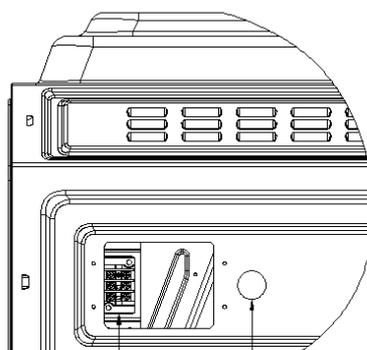
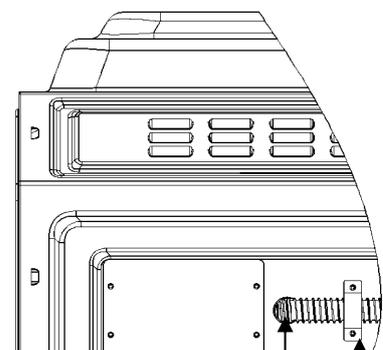

Fig.1.2
Fig.1.3
Step 2: connect the ground wire, red wire L1 and black wire L2 of the bellows to the ground wire, red wire L1 and black wire L2 of the wiring seat respectively. The bellows is stretched out from the outlet of the bellows and pressed on the upper cover by the wire clamp. As shown Fig.1.2/Fig.1.3